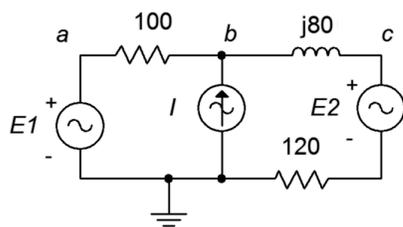

Figure 6.33
68. Given the circuit in Figure 6.33, determine  $v_{ad}$ .  $E_1 = 15\angle 0^\circ$ ,  $E_2 = 6\angle 0^\circ$ ,  $I = 100E-3\angle 0^\circ$ .